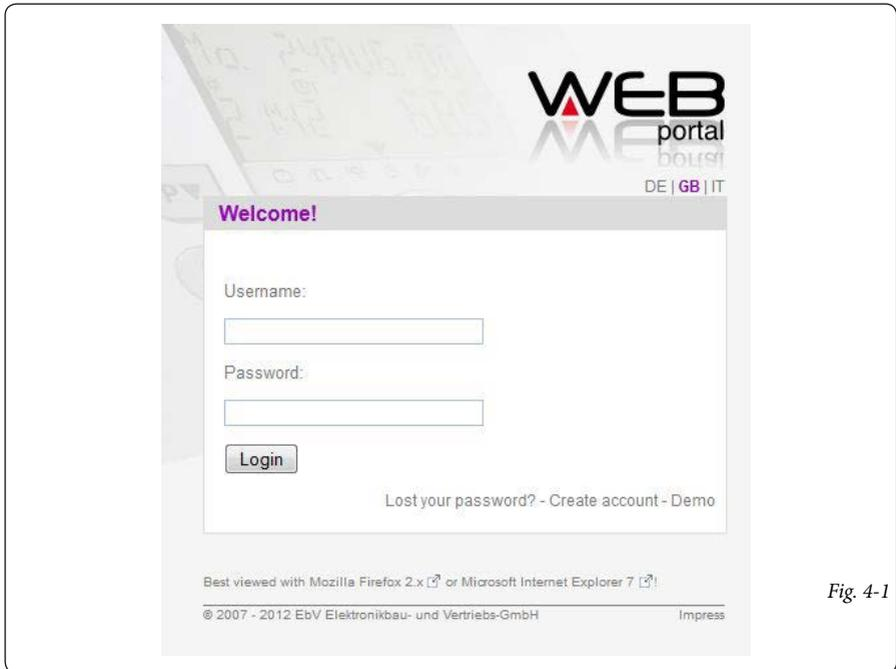

Fig. 4-1
- Select the EN language and the relative screen will appear (fig. 4-1).